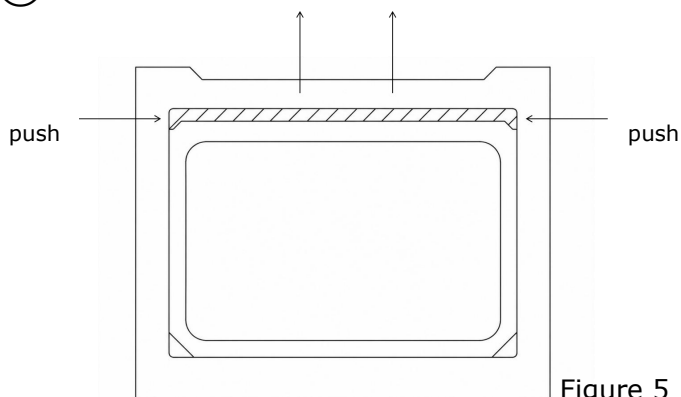
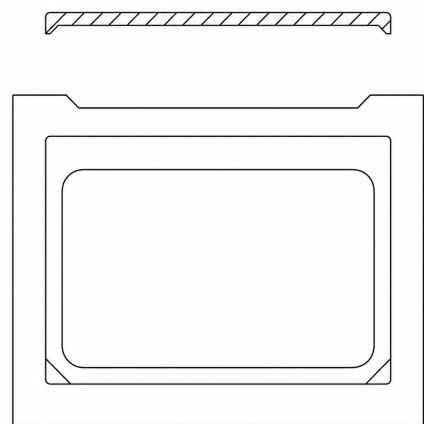

Figure 5
Figure 6
4. Push the latch on both side (Fig. 5) and pull the bar out (Fig. 6)